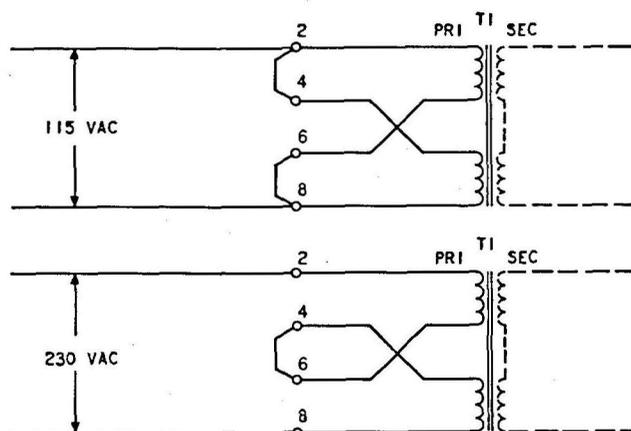

Fig. 3—Power Transformer Windings—115- or 230-Volt Operation
2.10 The VTVMs are equipped by the factory, with the power transformer dual primary windings connected in parallel for 115-volt operation. If operation from a 230-volt source is desired, primary windings must be reconnected in series (Fig. 3).